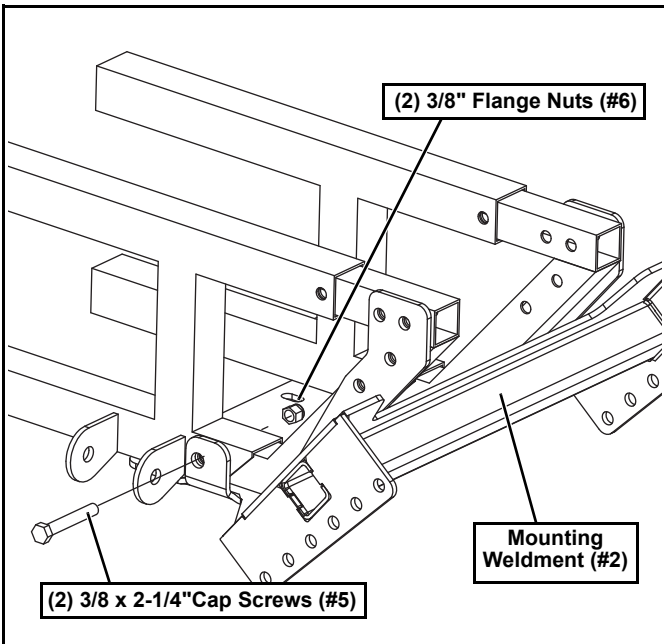

Figure 7
6. Place the Mounting Weldment (#2) onto the frame. Secure the lower side of item #2 by reinstalling the hardware that was removed from step 2. (See Figure 7.)